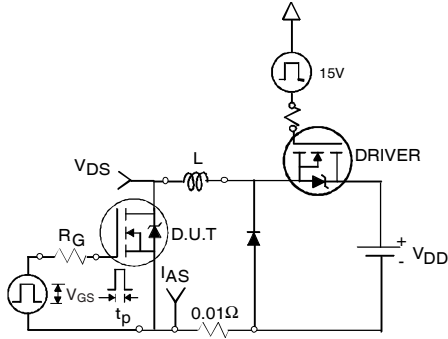

Fig 12a. Unclamped Inductive Test Circuit
3. Equation below based on circuit and waveforms shown in Figures 12a, 12b.
- ③ Pulse width $\leq 1.0ms$; duty cycle $\leq 2\%$.
- ④ C_{OSS} eff. is a fixed capacitance that gives the same charging time as C_{OSS} while V_{DS} is rising from 0 to 80% V_{DSS} .
- ⑤ Limited by T_{Jmax} , see Fig.12a, 12b, 15, 16 for typical repetitive avalanche performance.
- ⑥ This value determined from sample failure population. 100% tested to this value in production.
- ⑦ This is only applied to TO-220AB package.